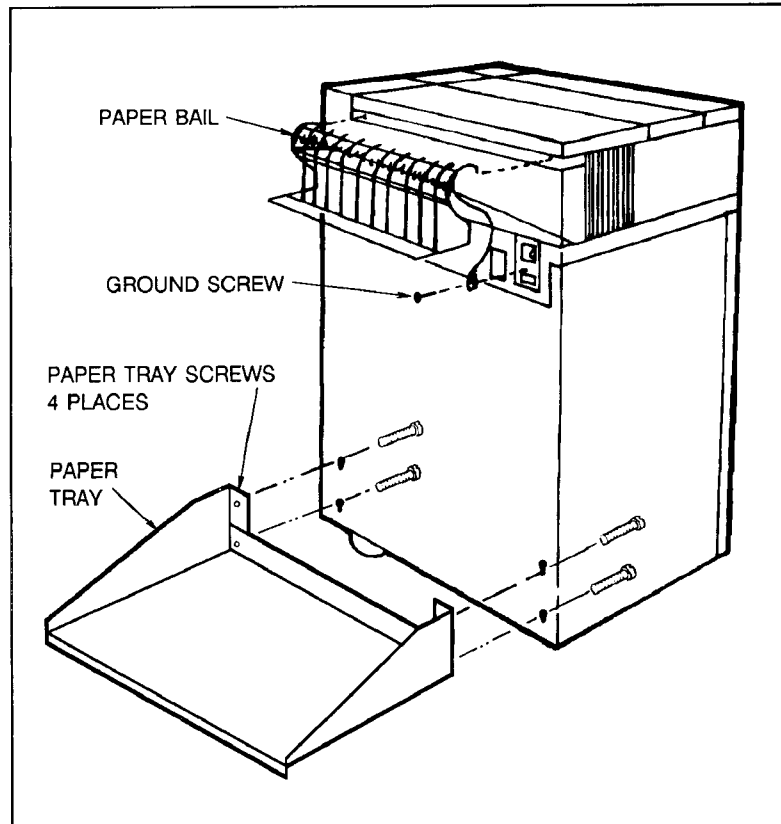

Figure 2-22. Installing The Paper Bail and Paper Tray
- b. Remove the tinsel strip and the paper bail from the one accessory box and the paper tray (w/4 screws each) from the other box. Attach the tinsel strip to the paper bail as shown in Figure 2-22. Install the paper bail on the printer as shown in Figure 2-22 and attach the ground wire to the plate on the back of the printer (the screw for grounding the tinsel strip is already on the plate).
- c. Insert the paper tray screws into the paper tray holes at the bottom of the printer (see Figure 2-22). Secure the paper tray by opening the cabinet door at the front of the printer and tightening the paper tray screws. Tray must be attached to avoid a tipping hazard.